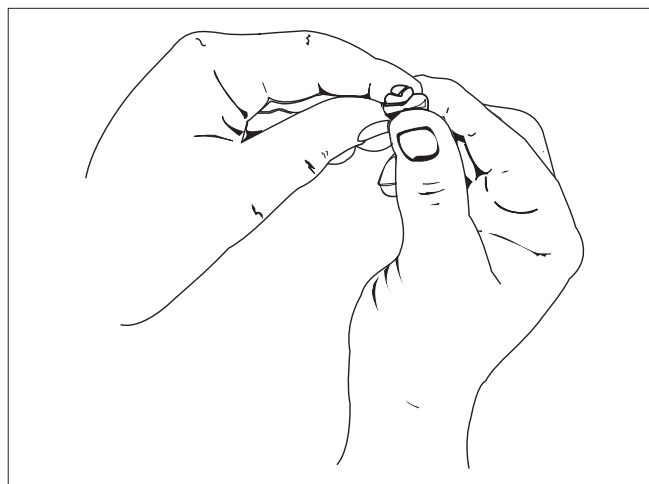

Figure 1-8. Squeezing Excess Oil from Air Filter Element.
4. Squeeze the air filter to ensure that the oil is spread throughout the entire filter (Figure 1-8).